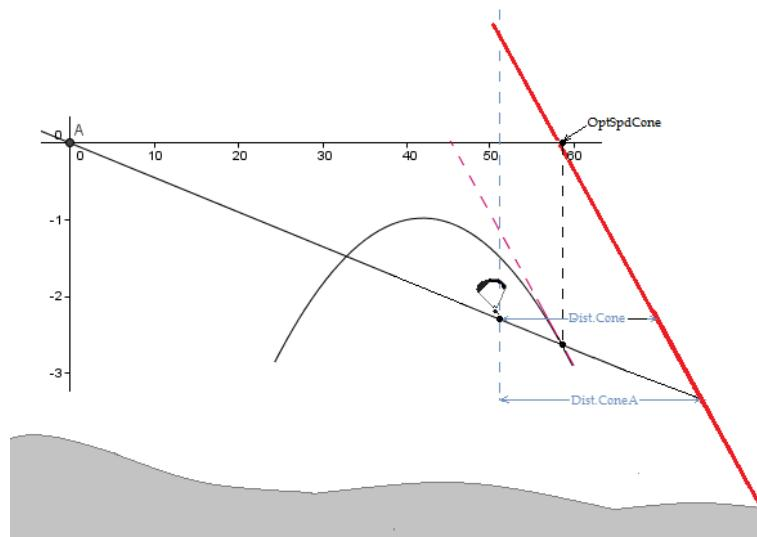

Figure 5.2: Conical End of Speed Section
Consider the same task represented in Figure 4.5, but now the *End of Speed Section* (ESS) is a cone with 4:1 ratio. In order to set up the task you should make the same steps defined above except the step 5. As the cone as a ratio of 4:1 in this step you should set the *Cone* parameter to 4.0. The NAV SD provides some information to optimize the navigation when the ESS is conical. This information is provided through 5 additional data fields which can be included in a Layout page. Each of the data fields is explained in Section 3.2, but for a better understanding consider the situation of Figure 5.2.
In the example of Figure 5.2, the pilot is flying to the ESS at a certain true air speed (TAS). There is an optimum TAS value which minimizes the time to reach the ESS. This value depends on the polar and cone ratio, and is not affected by the wind or thermals. The NAV SD calculates the optimal TAS value and show this in the *OptSpdCone* data field. In order to know the TAS the pilot needs a TASProbe. So for the pilots who do not have the TASProbe the NAV SD calculates the optimal ground speed by adding a Wind component to the TAS. The optimal ground speed is shown in the *OptGndSpdCone* Data Field.
When the ESS is a cylinder the distance to the ESS does not depend on the pilot altitude. On the contrary, when the ESS is a cone the distance to the ESS depends on the altitude. Because of this, the NAV SD provide 2 distances in 2 different data fields. The *Dist.Cone* data field shows the distance to the ESS at the current pilot altitude (see Figure 5.2). As the glider glide ratio (GR) is usually positive and finite the altitude at which the pilot reaches the ESS is different from the current altitude, so real distance to the cone depends on the GR. The *Dist.ConeA* data field shows the horizontal distance to the ESS considering the expected average GR trough the remaining path (see Figure 5.2).